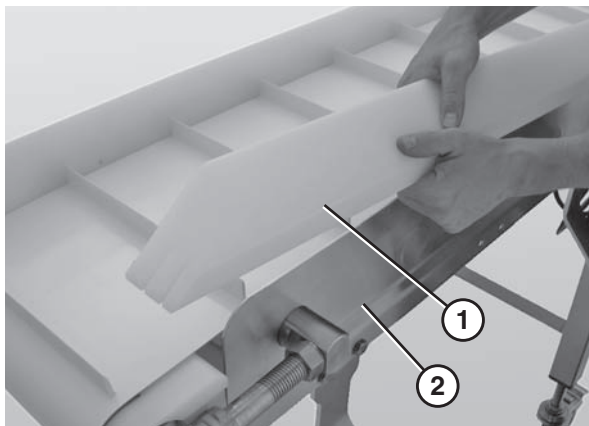

Figure 47
2. Remove the guide (**Figure 47, item 1**) from the conveyor (**Figure 47, item 2**).